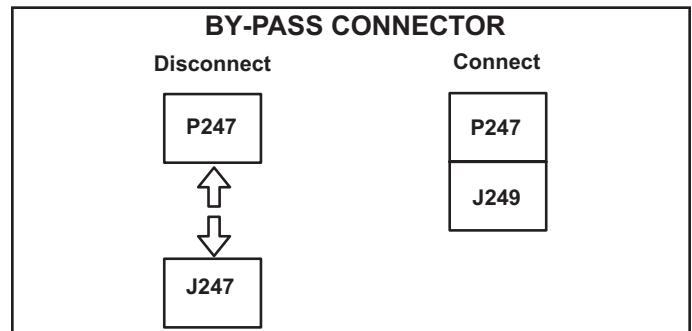

FIGURE 36
- 4- Disconnect P247 from J247 and connect J249 to P247. See FIGURE 36.